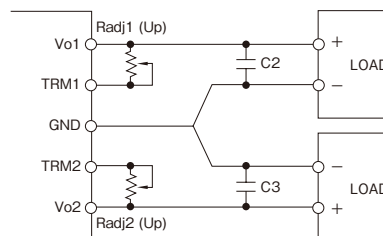

Fig.3-2: Connection for output voltage trim up
- $Vo1/Vo2$ terminal: to adjust to higher output voltage; Fig. 3-2 or